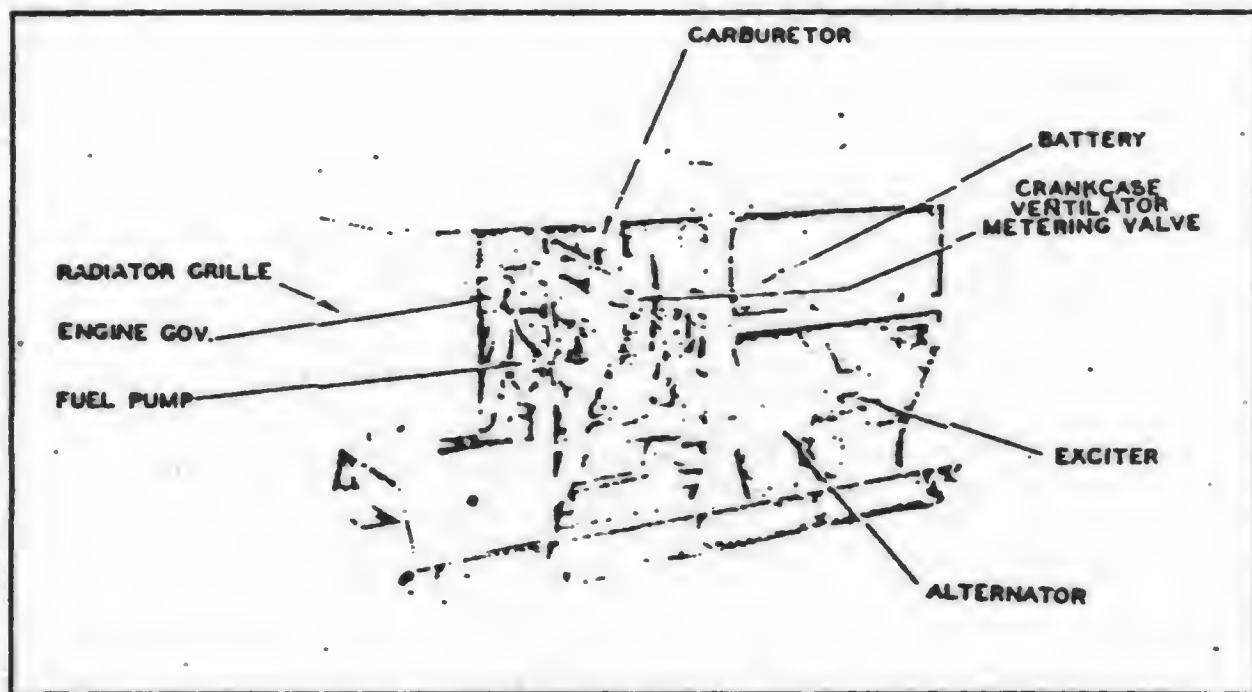

FIG. 1 POWER UNIT JWC4-10S-3 (RIGHT SIDE)
a. **Description.**—Power Unit JWC4-10S-3, Figs. 1 and 2, is a complete electric generating plant. It consists of an engine and a generator with the necessary accessories and controls, all mounted in a metal housing with a skid base.